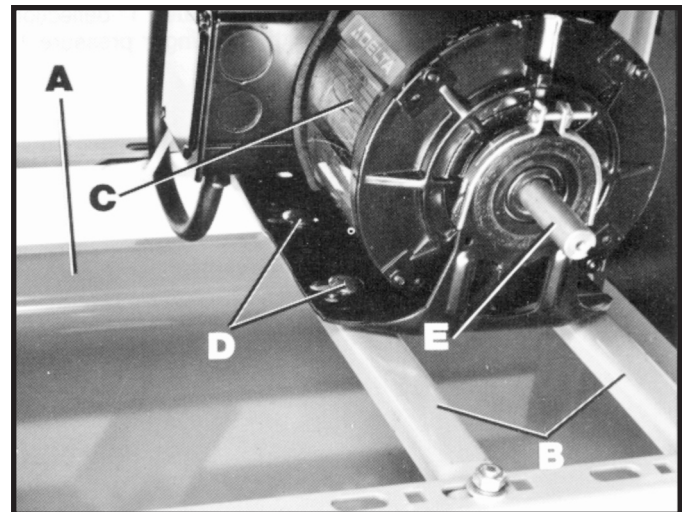

Fig. 3
1. To make the motor assembly easier, turn stand (A) Fig. 3, on its side with two horizontal bars (B) down as shown.
2. Position motor (C) Fig. 3, on two horizontal support bars (B) as shown, and fasten with four  $\frac{3}{4}$  long carriage bolts, two of which are shown at (D), and four flanged nuts. **IMPORTANT: MAKE CERTAIN MOTOR SHAFT (E) IS ON THE SAME SIDE OF THE STAND AS THE LARGE OPENING IN THE TOP OF THE STAND BEFORE TIGHTENING CARRIAGE BOLTS (D).** Further motor alignment will be necessary after band saw is fastened to stand.